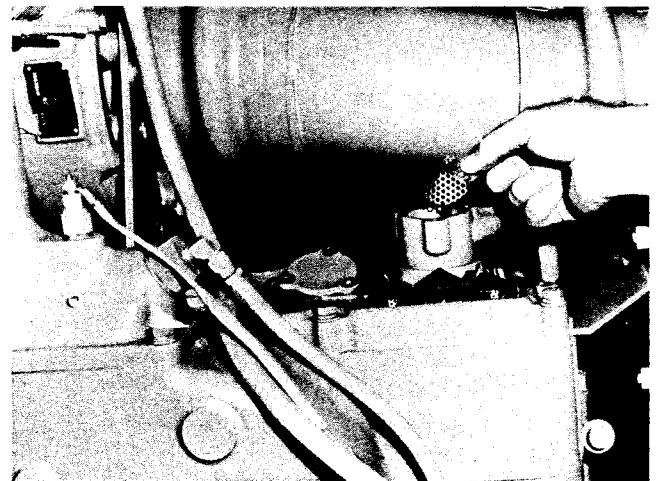

Fig. 2-25, (N11934). Crankcase breather — screen type
2. Remove capscrews, washers, cover, screens and baffle if used, from breather body. Fig. 2-25.